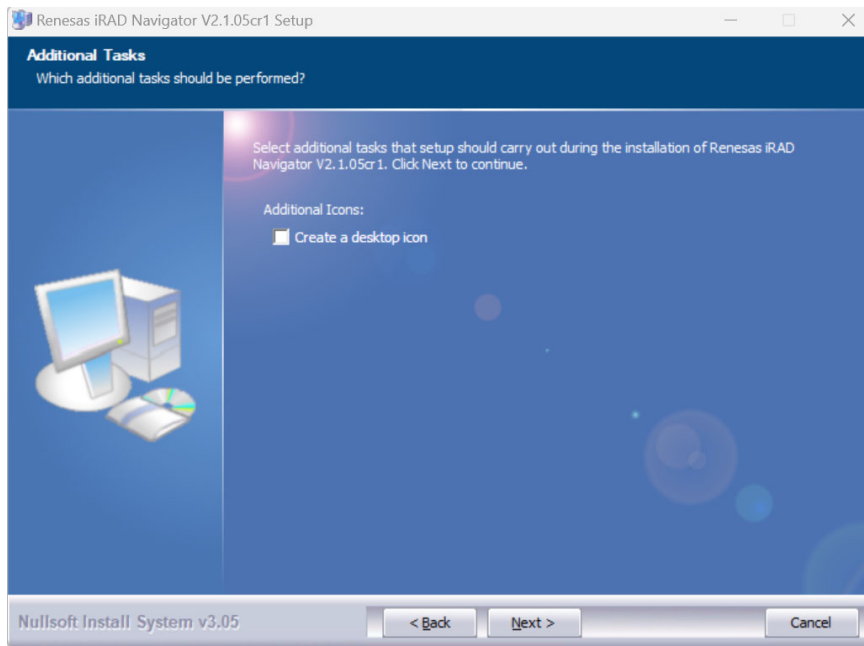

Figure 3. Create a Desktop Icon
7. Select **Create a Desktop Icon** if required. This step is shown in Figure 3.